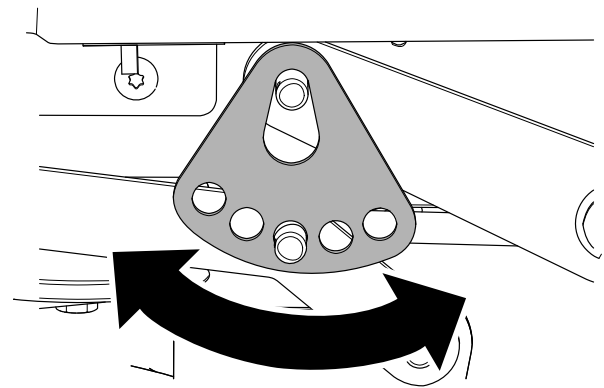

**Figure 68**
6. Remove the hairpin cotter and washer from the lower lift-arm pin (Figure 68).